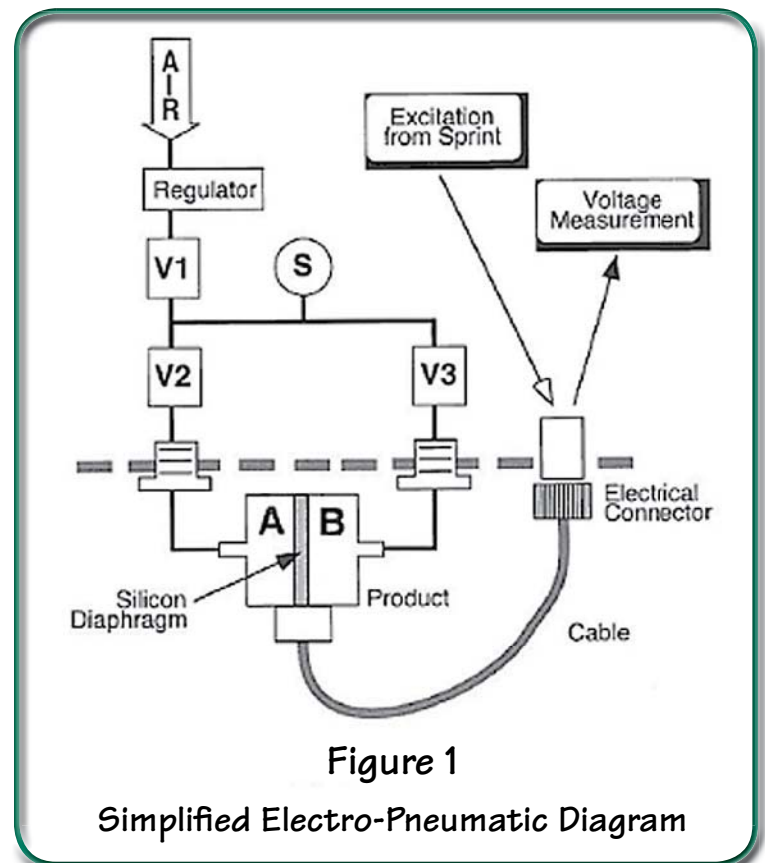

Figure 1
- Product is attached to the test port and Sprint's test program is started. (Figure 1)